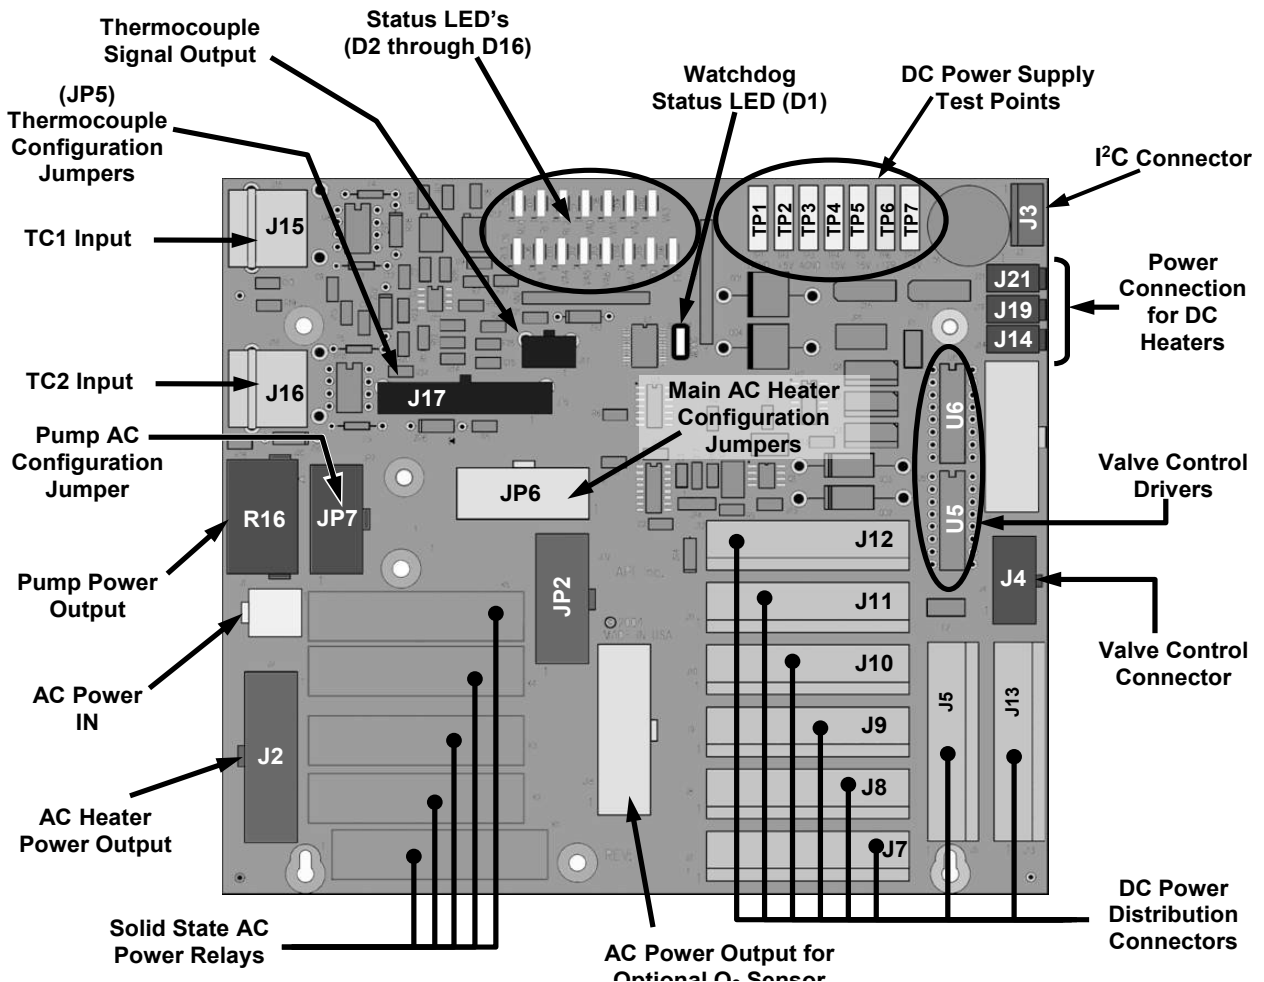

Figure 6-17. Relay PCA Layout (P/N 045230100)
The CPU issues commands via a series of relays and switches located on a separate printed circuit assembly, called the Relay PCA (Figure 6-17), to control the function of key electromechanical devices such as heaters and valves. The Relay PCA receives instructions in the form of digital signals over the I²C bus, interprets these digital instructions and activates its various switches and relays appropriately.
- TC2 (J16) is currently not used (see Figure 6-17 for location of J15 and J16).